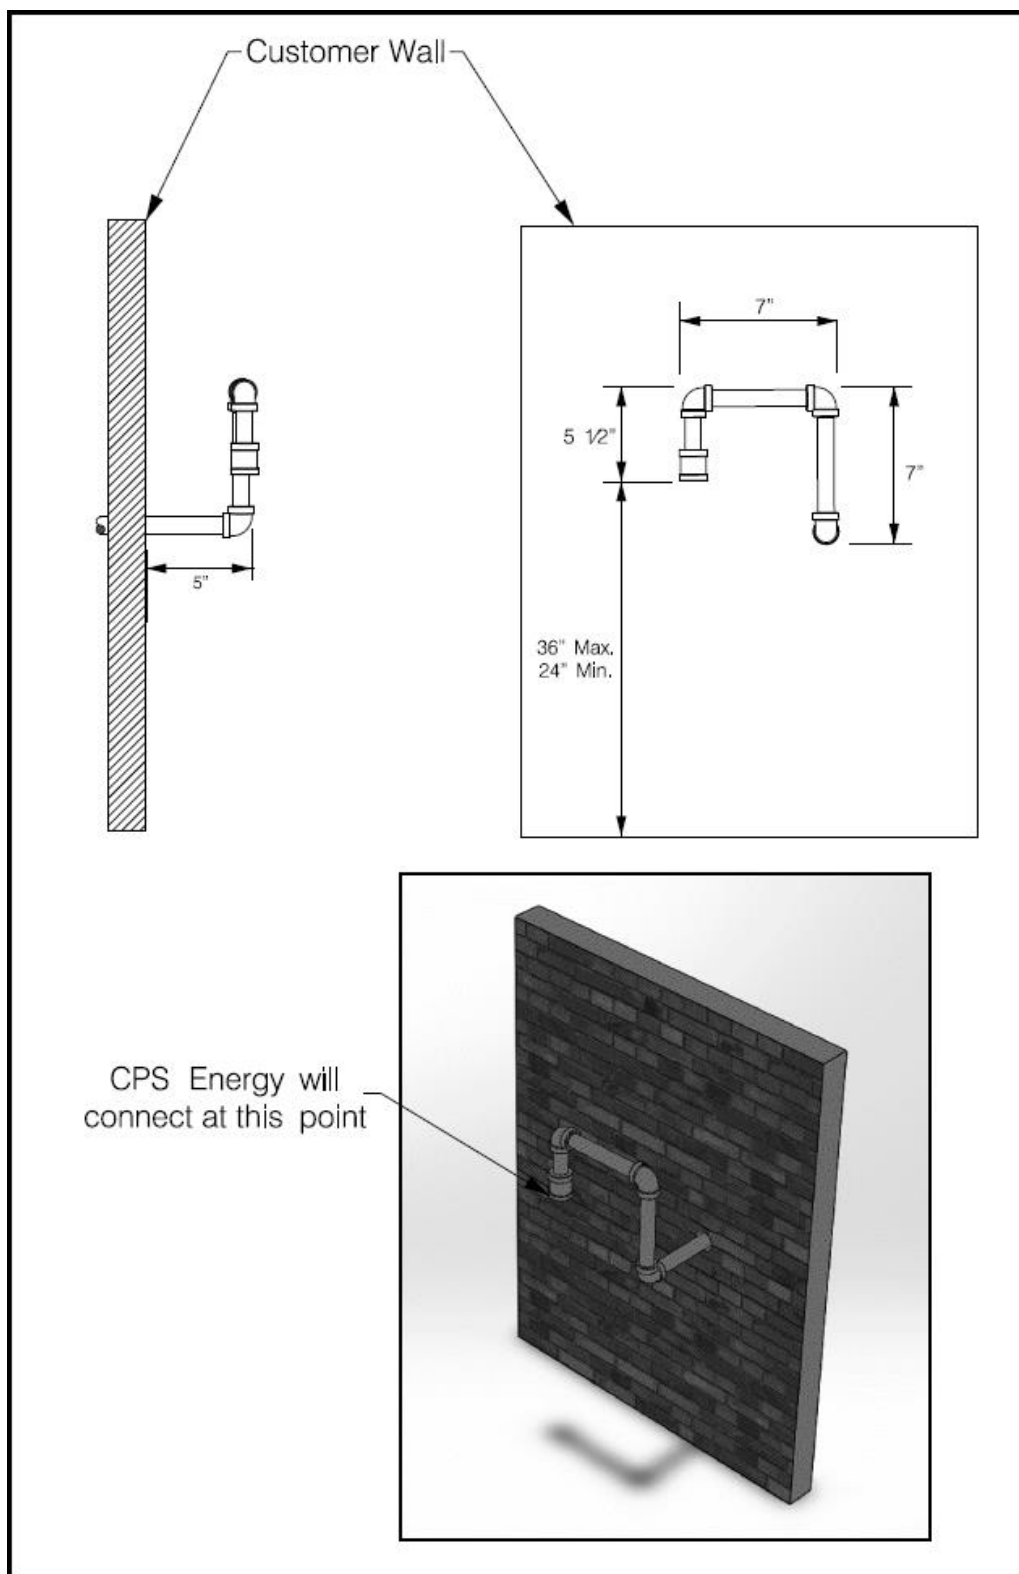

Figure 103 – Customer Piping Configuration Recommendations
3. Customer piping should be installed to the right of the CPS Energy gas service riser. Refer to Figure 103 for additional pipe configuration recommendations.